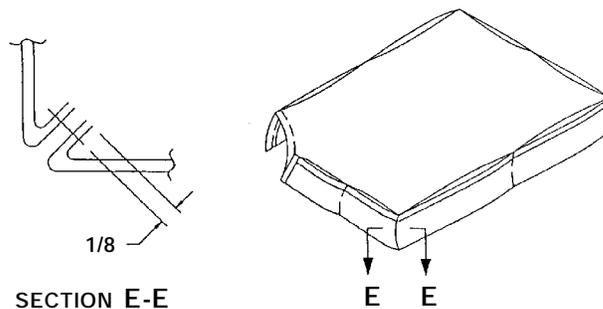

Figure 16. Finished Protective Cover
f. Sew corners of protective cover per Figure 16. Finished protective cover should look like Figure 16.